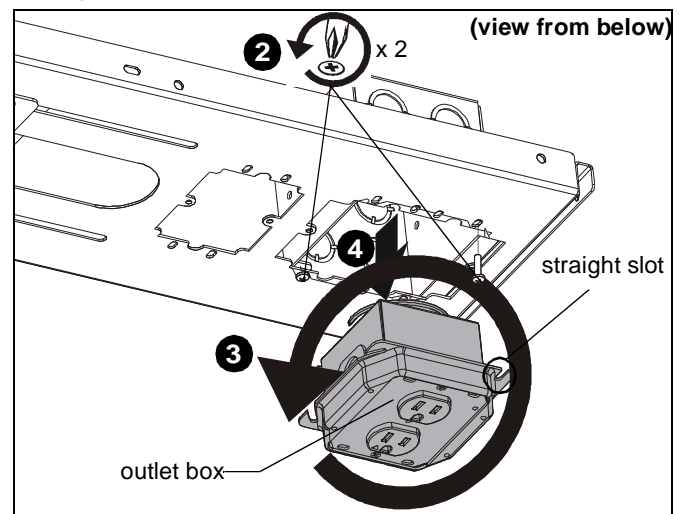

Figure 2
2. Remove one Phillips head screw holding outlet box to outer housing at the straight slot and loosen the other screw. (See Figure 2)
3. Rotate outlet box counter-clockwise until it is free to be removed from housing. (See Figure 2)
4. Remove outlet box from housing. (See Figure 2)